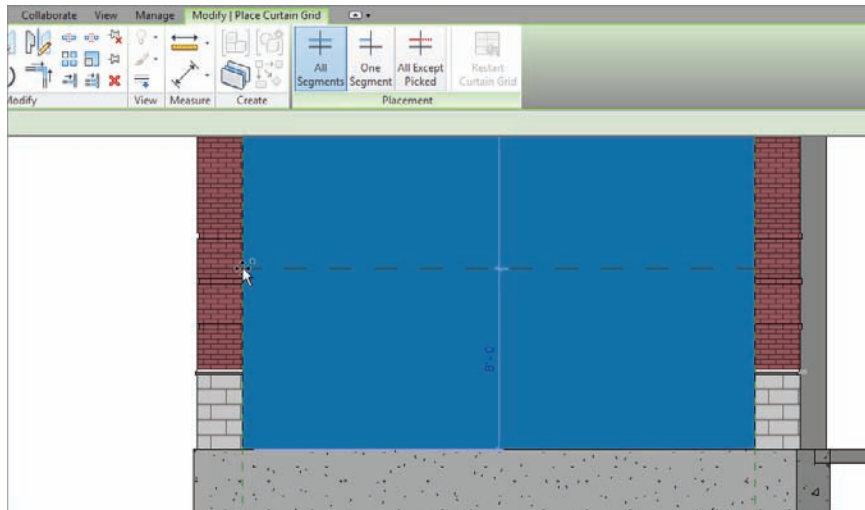

FIGURE 16.31 Picking a point 8'-0" (2400mm) up from the base of the wall
2. On the Modify | Place Curtain Grid tab, click the All Segments button, as shown in Figure 16.31.
3. Move your cursor up the left side of the curtain wall, and pick a horizontal point that is 8'-0" (2400mm) up from the base of the wall (see Figure 16.31).